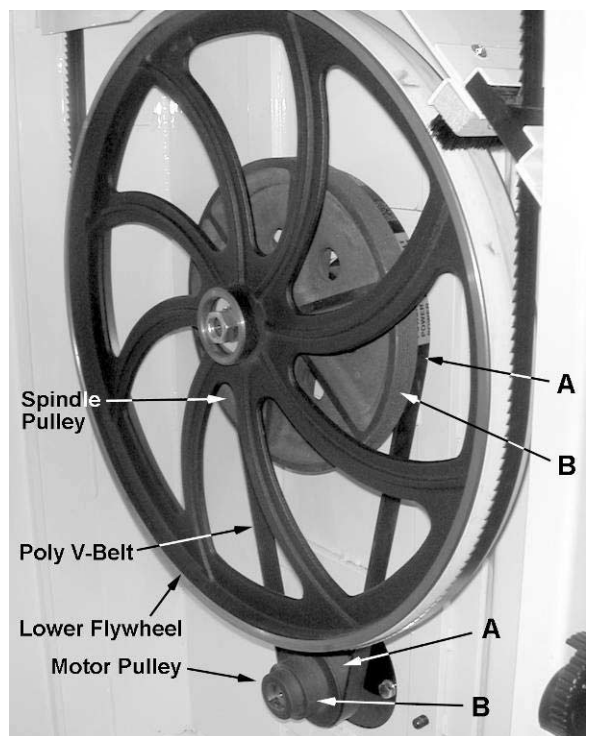

Figure 26
4. Referring to Figure 26:
For *higher blade-speed* – place the poly V-belt in the A position on the spindle and motor pulleys as shown in Figure 26.
Note: For *higher blade-speed*, place the belt on the pulleys closest to the motor (A, Fig. 26). For *lower blade-speed*, place the belt on the pulleys away from the motor (B, Fig. 26).